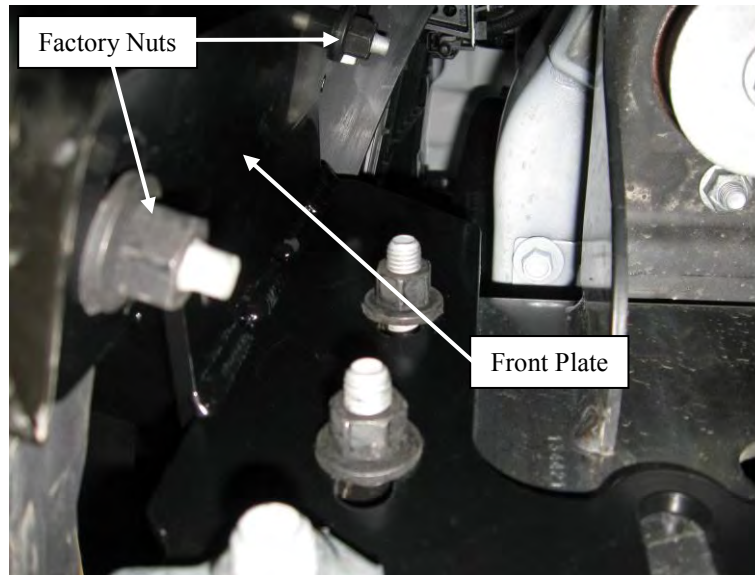

Figure 10: Large Frame Carrier: Bumper Factory Nut Positions.
20. Adjust the bumper to center it left to right on vehicle. Flares should line up evenly with the bumper ends on both sides. Tighten all 4 factory nuts that attach the bumper to the frame extension Front Plate and torque to 50 lb. ft. (67.8 N-m). See **Figure 10**.